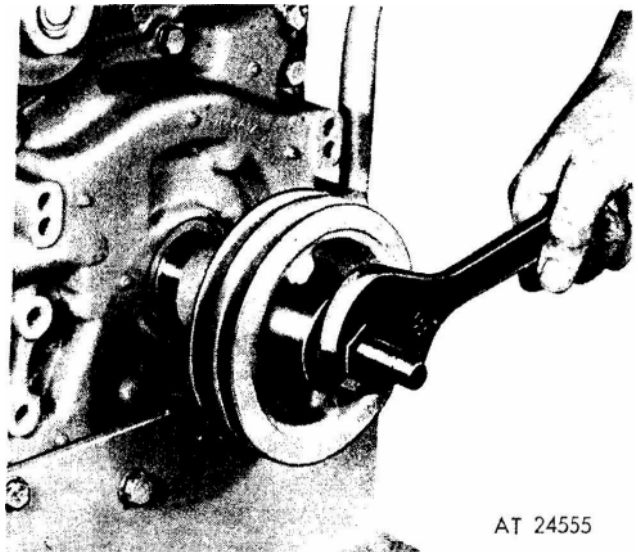

Figure 2. Installing crankshaft pulley using installer J 7773.
3. Install a rigid type pulley with installer J 7773 as shown in figure 2. Then remove the installer.